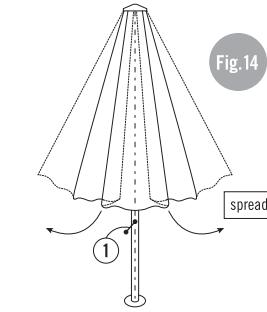

Fig. 14
- Spread sunshade by loosening the roof struts and material outwards (Fig. 14).
- Turn hand crank (1) clockwise until sunshade is spread out.